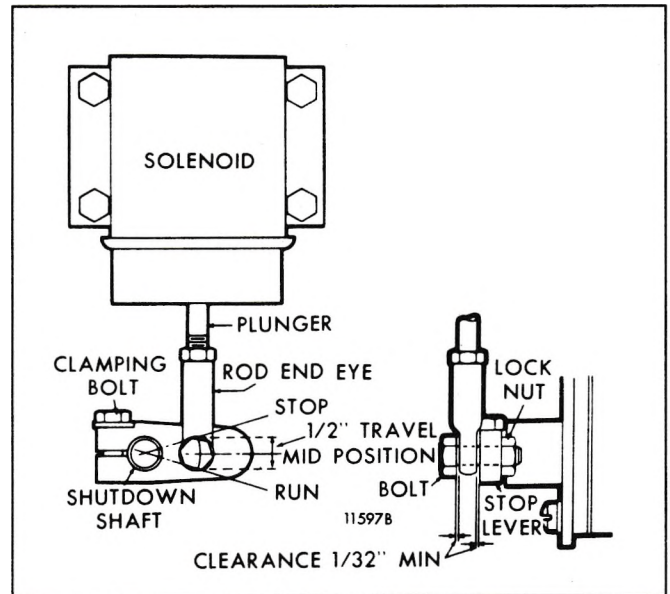

Fig. 10 - Typical Variable Speed Governor Lever Position
1. Remove the bolt connecting the rod end eye (variable speed governor) or the right angle clip (limiting speed governor) to the stop lever (Figs. 10 and 11). Align and clamp the lever to the shutdown shaft in such a way that, at its mid travel position, it is perpendicular to the solenoid plunger. This assures that the linkage will travel as straight as possible. The solenoid plunger has available 1/2" travel which is more than adequate to move the injector control racks from the full-fuel to the complete no-fuel position and shutdown will occur prior to attaining complete travel.